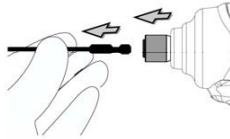

Fig. 2
2. To remove the bit, pull the retainer in the direction of the arrow and pull the bit out firmly. (Fig. 2).